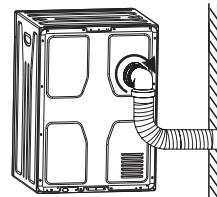

Figure 6
3. Route the hose to the outdoors via a window or it can be connected to an outlet in the wall (see the diagram figure 6).